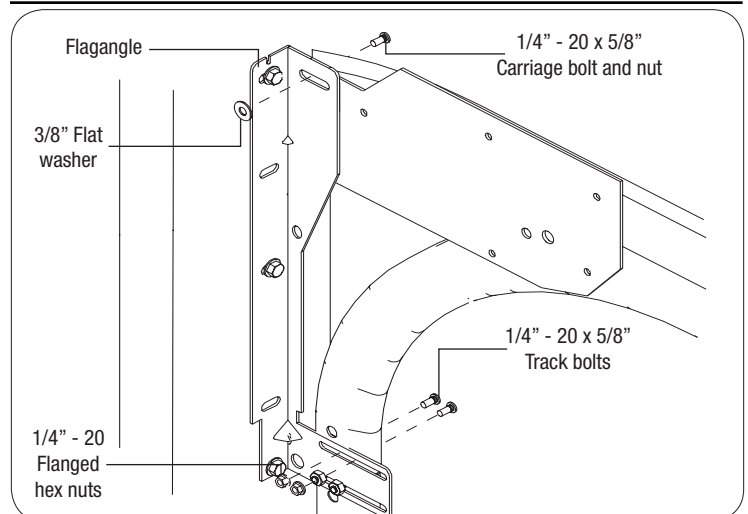

FIG. 10.1
Place (1) 1/4-20 x 9/16" track bolt through the slot in the end of the top curve and the appropriate slot in the flagangle, then secure with a 5/16" flat washer and flanged hex nut (do not fully tighten). Level the horizontal track, then tighten the bolt in the top curve, as shown in **FIG. 10.1**.